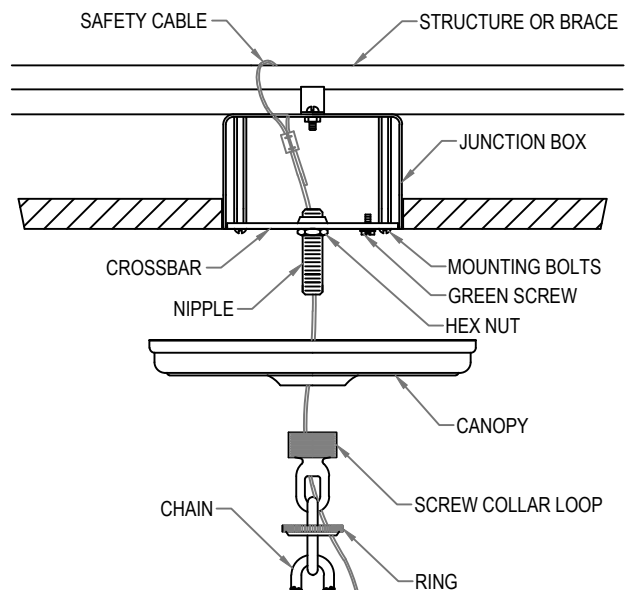

FIGURE-1
- Attach the **SAFETY CABLE** to the building structure or brace (See figure-1).